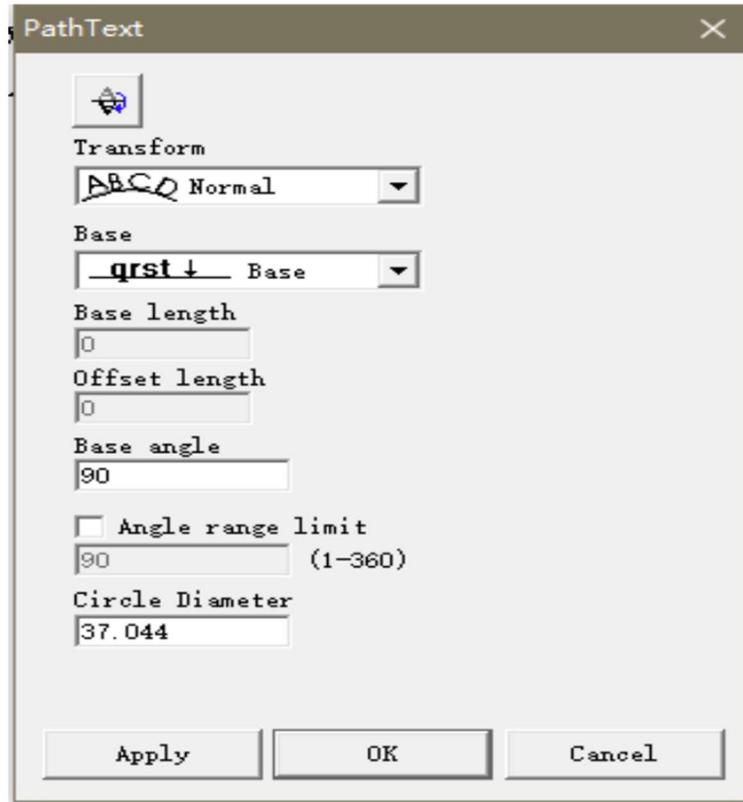

Figure 3-9 Curve Text Parameter Dialogue Box
3.5.3 Select the text object and click  in the left object property bar. The system will pop up a dialog box as shown in Figure 3-9.